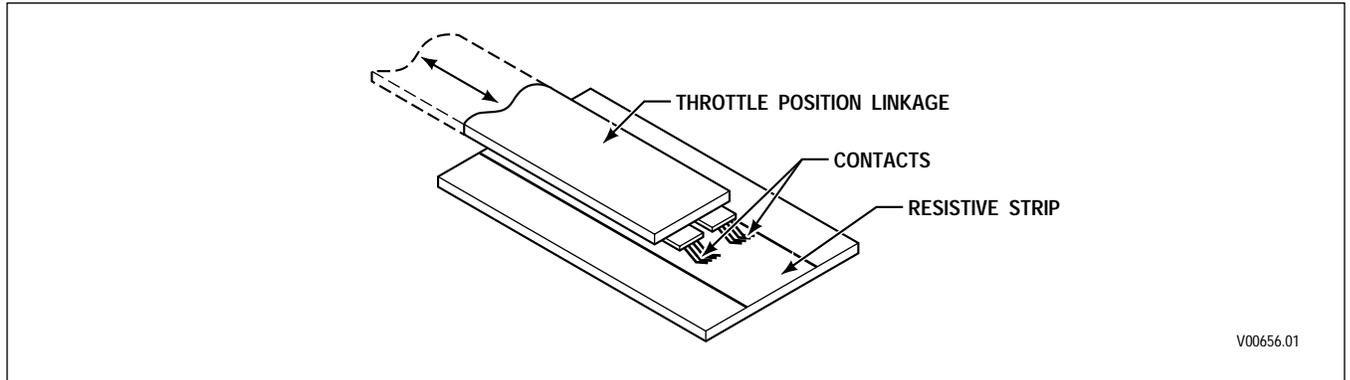

Figure D-1. Throttle Position to Voltage Conversion
A. Description of Operation (Figure D-1)